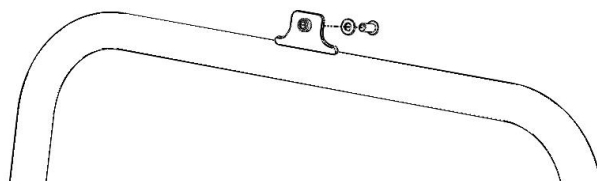

FIGURE 01
3. Remove the small plastic plugs in the holes on the lower frame area where the freeway bar will attach. See **FIGURE 01**.